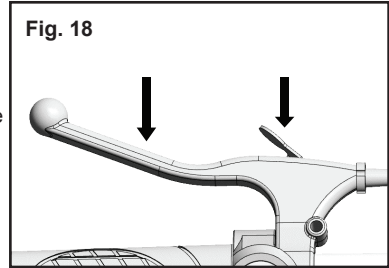

Fig. 18
5.8 Brake & Parking (See Fig. 18)